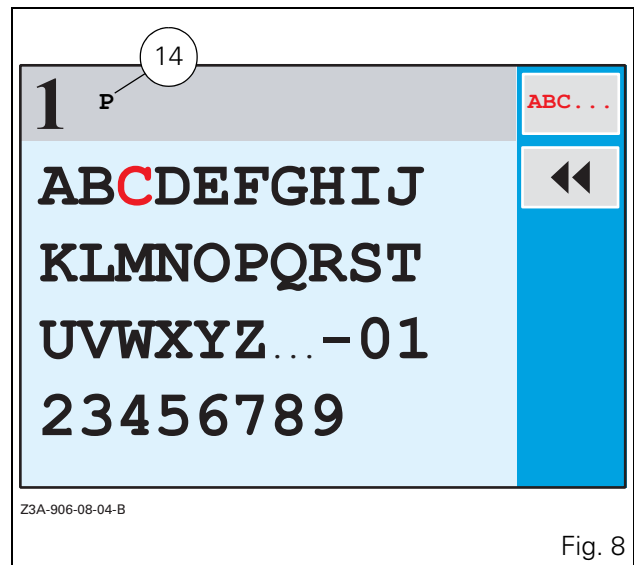

Fig. 8
- Validate the letter by pressing the encoder. The letter P is displayed in black (14 Fig. 8).